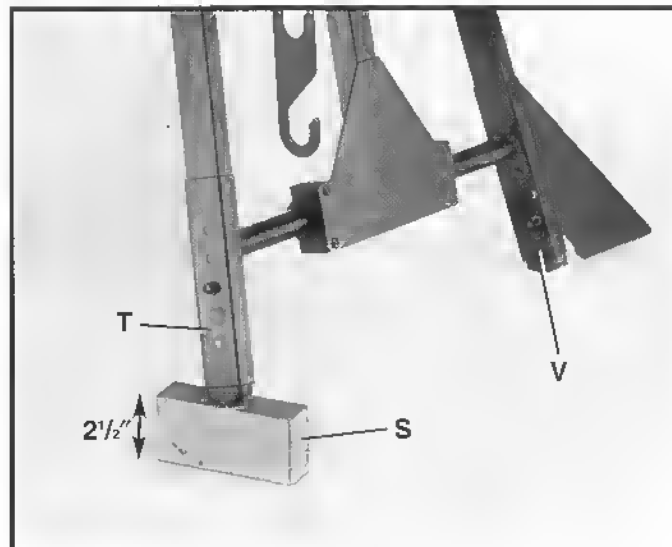

Fig. 38
1. Place a 2-1/2" block of wood (S) Fig. 38, under the front leg (T) of saw stand as shown.
3. Perform this same test by placing the block of wood under the rear leg (V) Fig. 38. **WARNING: STAY ALERT, FOR THE SAW STAND MAY TIP OVER DURING THIS PROCEDURE.**